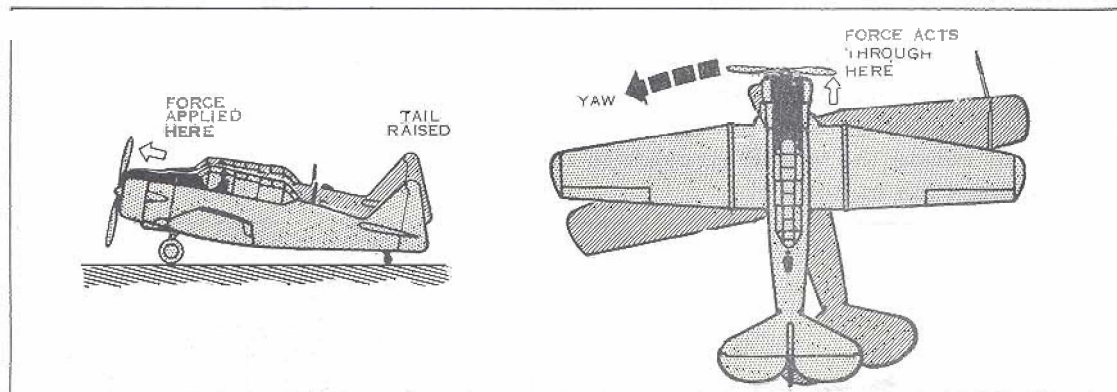

Figure 7: Gyroscopic Effect
(6) **GYROSCOPIC EFFECT** - Raising the tail on take-off, in effect, exerts a force at the top of the propeller arc which, in accordance with the principles of precession, acts through a point 90 degrees displaced in the direction of rotation and in the direction of the applied force. (Figure 7) On the Harvard the propeller rotates clockwise, therefore the effective force acts on the right-hand side of the propeller and causes a swing to the LEFT.
(7) There is no need for you to worry about memorizing or anticipating yaw. In the early stages, it is sufficient to prevent the nose from swinging when you see it start to yaw: later, you will be able to react immediately.